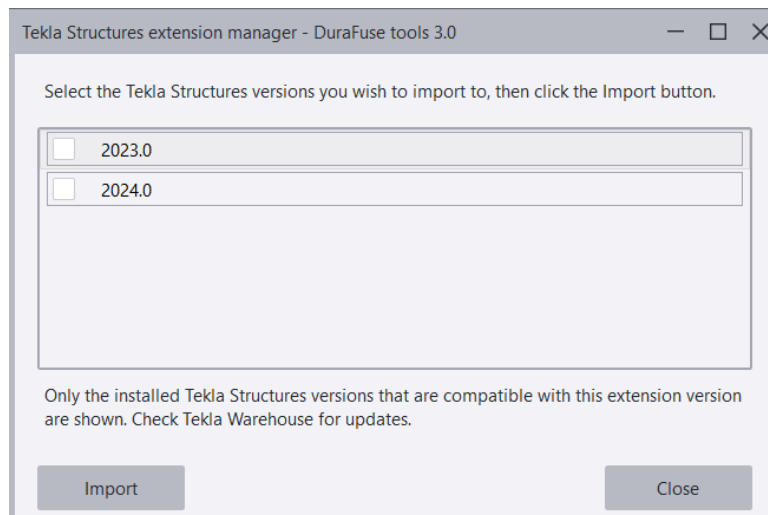

Figure 3-1. Extension Manager
3. The Tekla Structures **extension manager** will open (see Figure 3-1). From here, the compatible versions installed are listed.